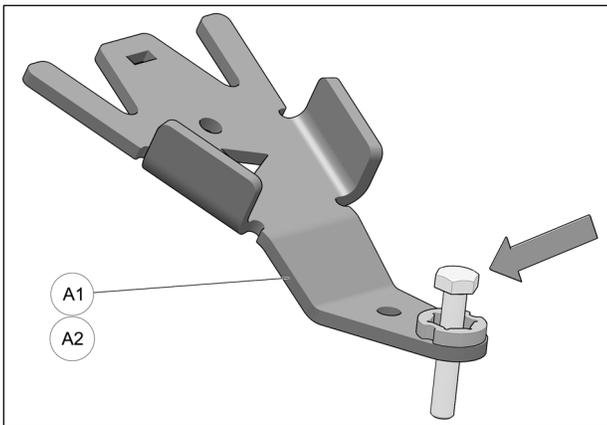

Fig. 13
4. Insert bolt in front anchor brackets (A1-A2) as shown in Fig. 13